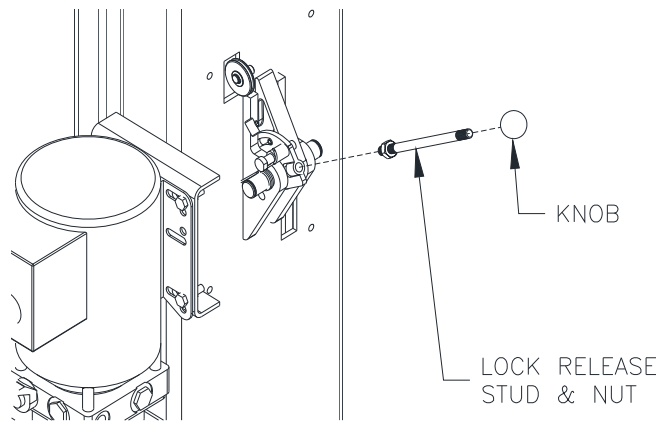

Fig 19– Lock Release Cover
36) Attach Lock Release Stud and M10 Hex Jam Nut to Lock Release Cam. See Fig 19.